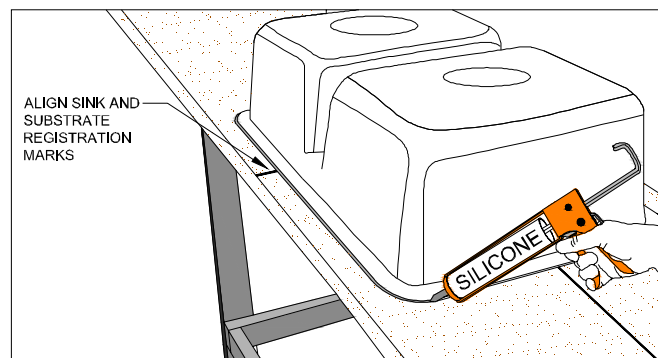

Figure 11D
- Fill gap between sink rim and substrate with 100% silicone. (FIG. 11D)